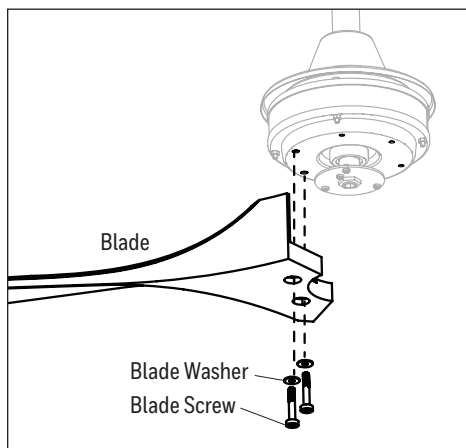

Figure 5.3
3. Align the holes of one blade with two blade screw holes in underside of the motor assembly. Secure with the two blade screws and blade washers. Repeat this step for the remaining blades (Figure 5.3).